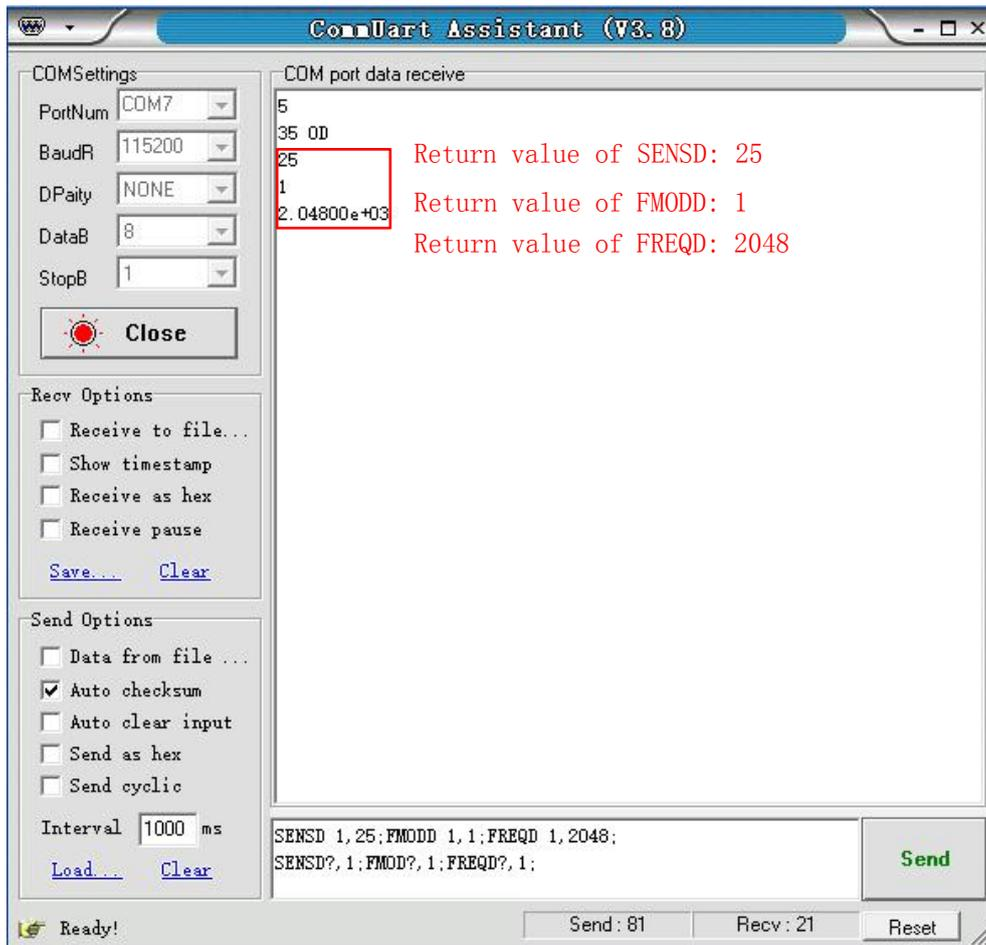

Fig.106 The execution of multiple commands
(3) Multiple commands are separated by “;”, such as ‘SENSD 1,25;FMODD 1,1;FREQD ,1,2048;SENSD ?,1;FREQD ?,1’, as is shown in Fig.106.